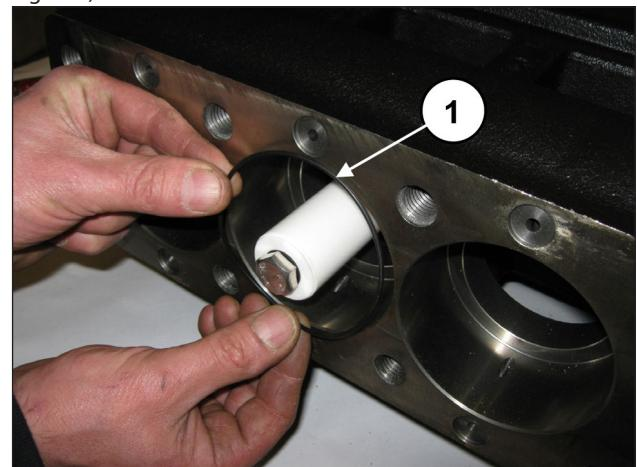
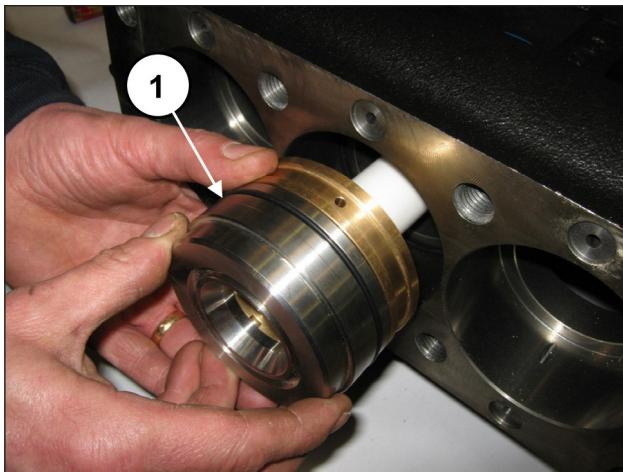

Fig. 186
Fig. 187
Insert the O-ring inside the pump casing (pos. ①, Fig. 186) and then the previously-assembled liner-seal support block (complete with the same O-ring) to end stroke (pos. ①, Fig. 187).